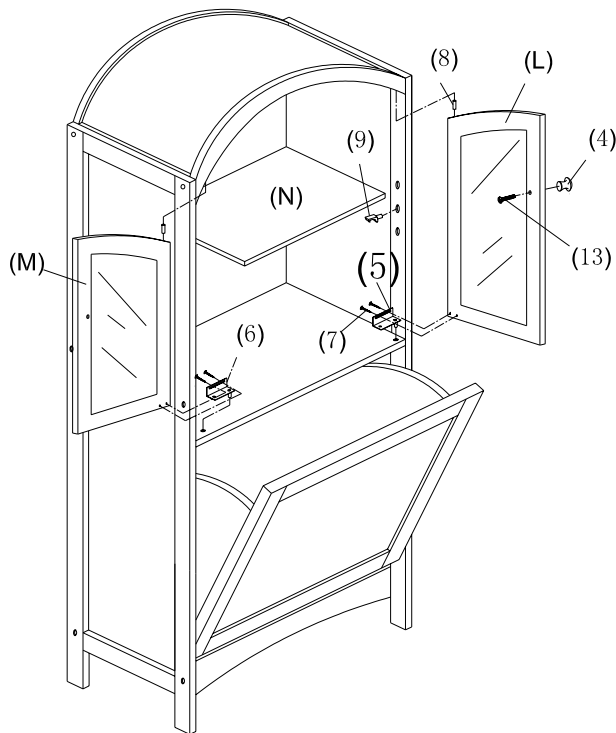

FIGURE 4
7. INSERT METAL HINGES (8) INTO PREDRILLED HOLES ON TOP EDGES OF LEFT AND RIGHT DOORS (M, L) AND FIT INTO CORRESPONDING HOLES ON UNDERSIDE OF TOP PANEL (A). INSERT LEFT AND RIGHT METAL HINGES (5, 6) INTO PREDRILLED HOLES ON UPSIDE OF FIXED SHELF (B). INSERT SMALL FLAT HEAD WOOD SCREWS (Ø3X10mm) (7) THROUGH LEFT AND RIGHT METAL HINGES (6, 5) AND TIGHTEN INTO PREDRILLED HOLES ON LEFT AND RIGHT DOORS (M, L) . INSERT SMALL MACHINE SCREWS (Ø5/32”X5/8”) (13) THROUGH PREDRILLED HOLES ON LEFT AND RIGHT DOORS (M, L) AND TIGHTEN INTO METAL KNOBS (4). (AS SHOWN IN FIGURE 4)
8. FIT SHELF SUPPORTS (9) INTO PREDRILLED HOLES ON LEFT AND RIGHT SIDE PANELS (E, F). PUT ADJUSTABLE SHELF (N) ON SHELF SUPPORTS (9). (AS SHOWN IN FIGURE 4)